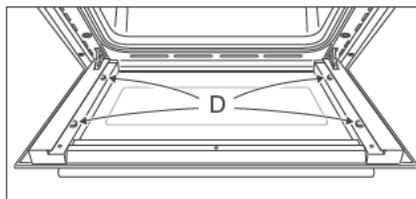

Fig.26a
- Check that the four rubber pads are in place ("D" in Fig. 26a).